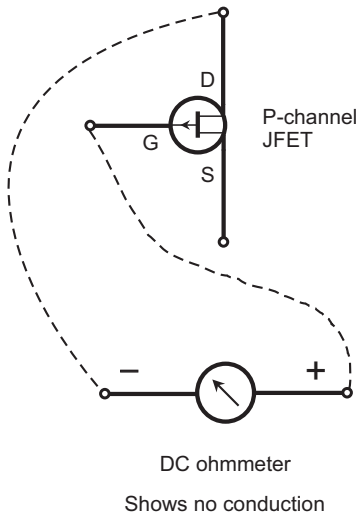

FIGURE 7-26 Electrons should not flow from the drain to the gate.
3. Electrons should not flow from the drain to the gate (Fig. 7-26).